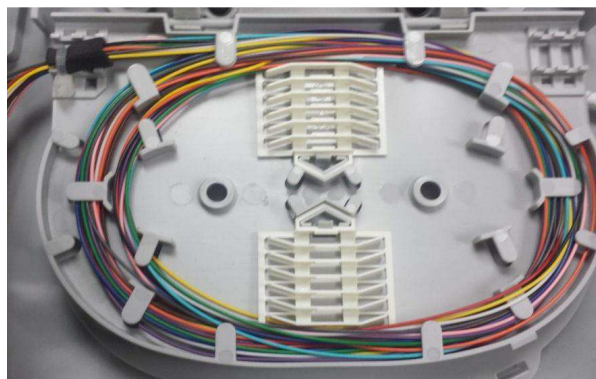

Figure 34
- 1.7.5 Take the fibers to the splice tray. Use the foam tape to protect the fibers and ensure the fixation of the fibers in the splice tray (Fig.34);